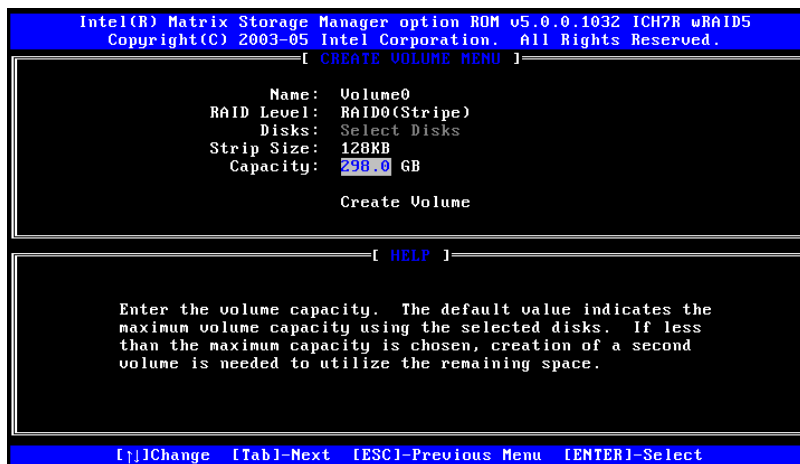

Figure G-5: Enter the Volume Capacity
Step 5: Enter the Volume Capacity. Enter the volume capacity, or press **ENTER** to accept the default capacity. See Figure G-5.